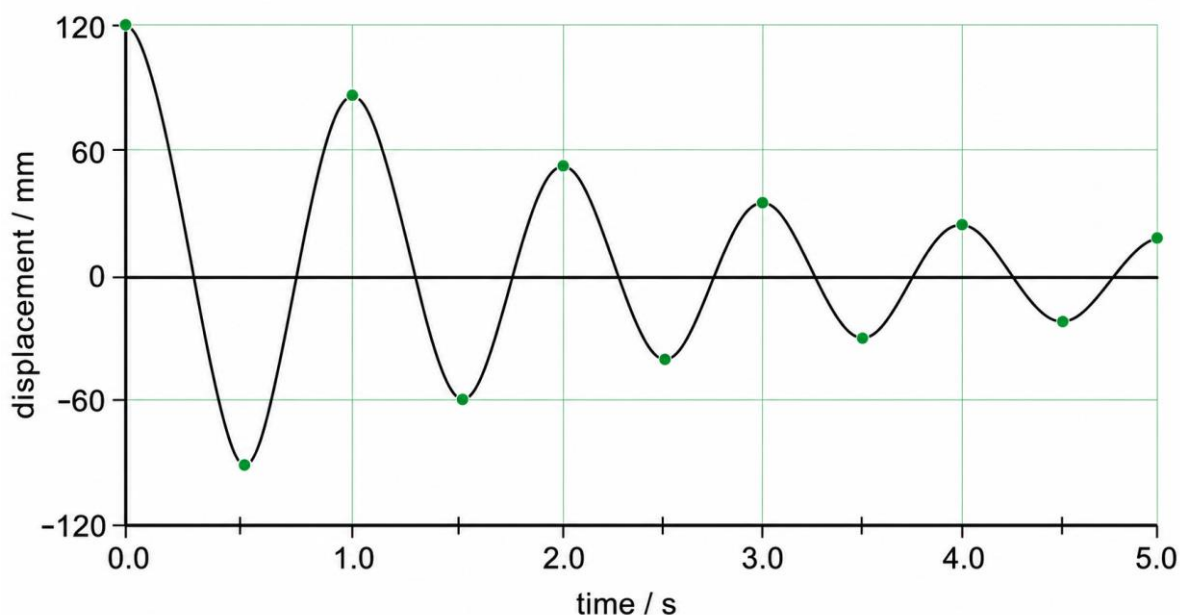

Figure 2: displacement-time record after release
5. Figure 2 is a displacement-time record after the carriage is released from rest. (a) Determine the period. (b) Read the amplitude at $t = 2.0$ s and calculate the fraction of the initial oscillation energy that remains, using E proportional to A^2 . (c) At the first equilibrium crossing, state the directions of the carriage velocity and the damping force. [4 marks]